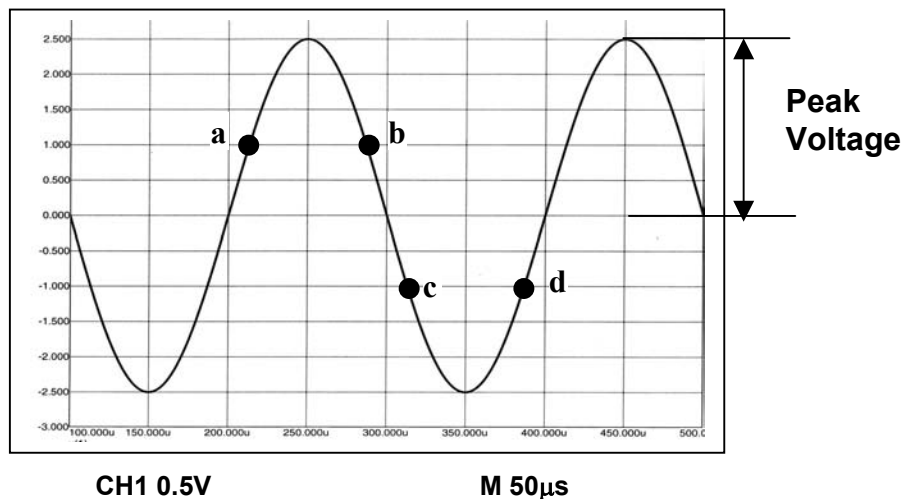

Figure 2.10.
2. [2 MARKS] The peak voltage of the sinusoidal waveform is the voltage at maximum value. What is the peak voltage of the waveform displayed below in Figure 2.10?
3. [2 MARKS]. What is the period of the waveform displayed in Figure 2.10?
5. [2 MARKS] The trigger level on an oscilloscope is set to 1 V and the trigger slope is set to falling. If the waveform shown in Figure 2.10 is used for triggering, which is the most likely point on the waveform at which data acquisition will start?